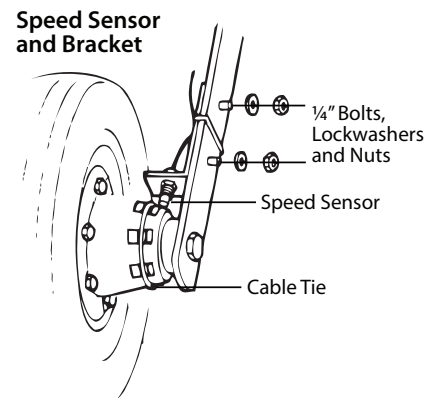

Figure 23
3. Install sensor, adjust to correct spacing ( $\frac{1}{4}$ " to  $\frac{1}{2}$ " or 6 to 13 mm is recommended), and secure with  $\frac{3}{8}$ " locking nuts. See Figure 23.